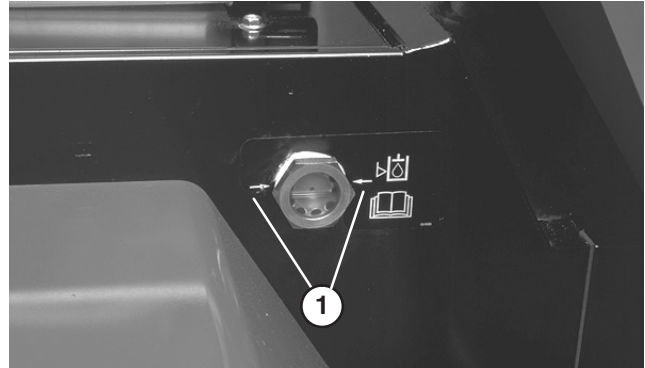

Figure 7
2. Look into sight glass (Fig. 7). Oil level should be even with arrows when checking warm oil. Oil will be 1/4 to 1/2 inch below arrows when cold.